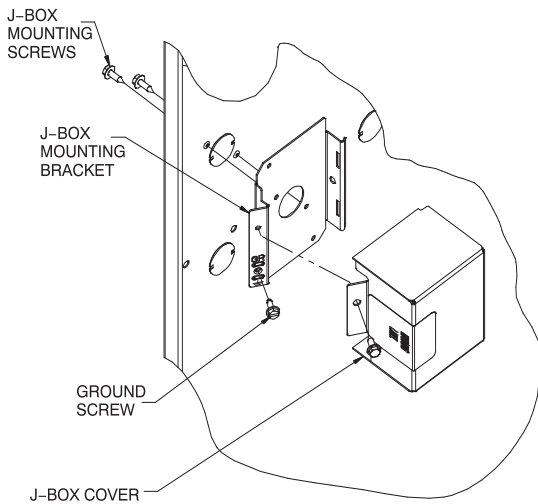

Fig. 35 – Installing J-Box (When Used)
The J-Box cover, mounting bracket and screws are shipped in the loose parts bag included with the furnace. See Fig. 35 for J-Box mounting locations.
- Install J-Box mounting bracket to inside of furnace casing. See Fig. 35.
- Connect field ground wire and factory ground wire to green ground screw on J-Box mounting bracket as shown in Fig. 35.
- Attach furnace J-Box cover to mounting bracket with screws supplied in loose parts bag. Do not pinch wires between cover and bracket. See Fig. 35.